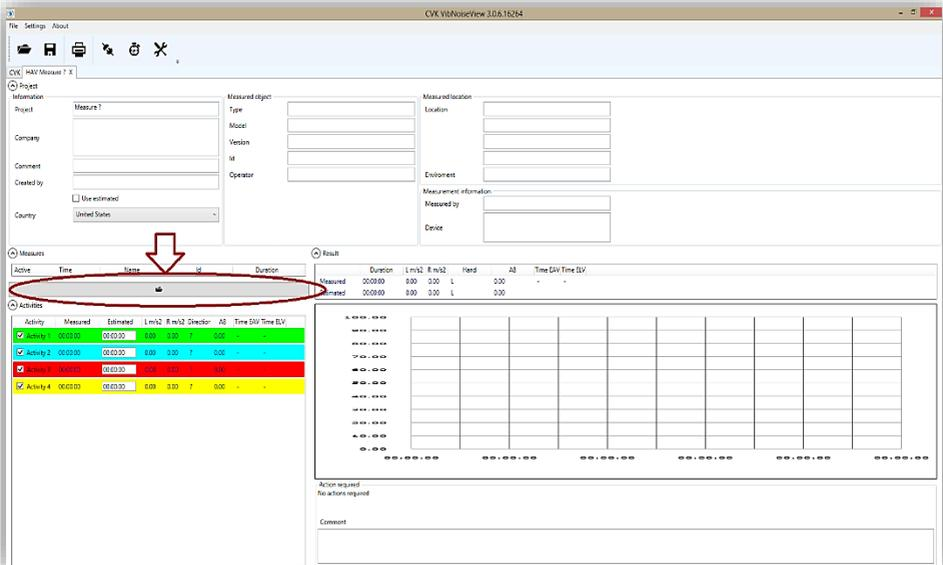

Figure34: Open a saved measurement file
2. Click on 'Open button' in "Measures" section to open your saved measurement files. (see figure34)